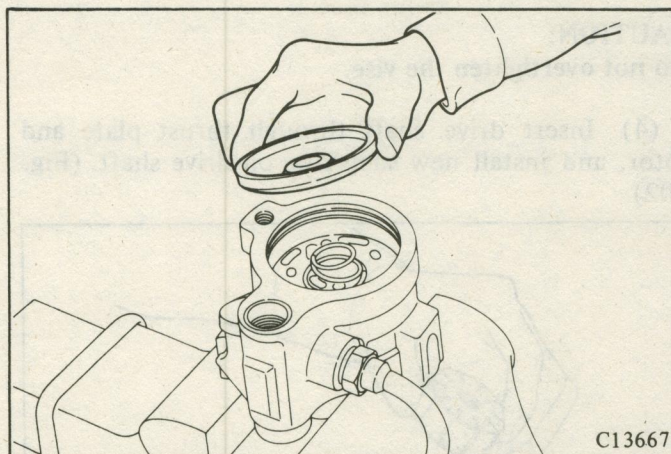

Fig. 97 End Plate and Spring
(5) Remove end plate and end plate O ring. End plate is spring loaded and will generally sit above the housing level for ease of removal. If sticking should occur, a slight rocking action of the end plate should be used to free it. (Fig. 97)